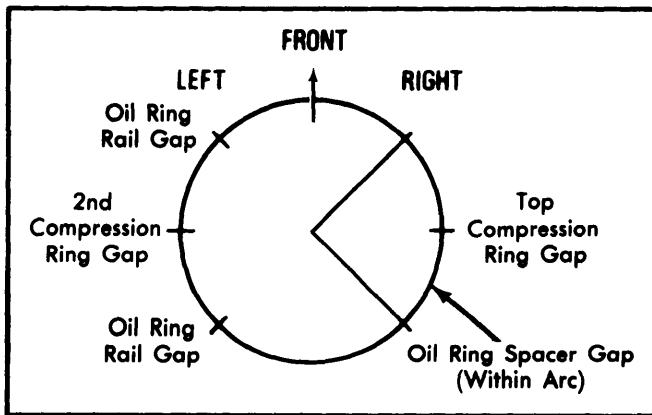

Fig. 5 Ring Gap Location
**Installation** — 1) Lightly coat pistons, rings and cylinder walls with engine oil. Make sure ring gaps are properly spaced and install ring compressor. See Fig. 5. Install pistons with connecting rod bearing tang slot on side opposite camshaft.